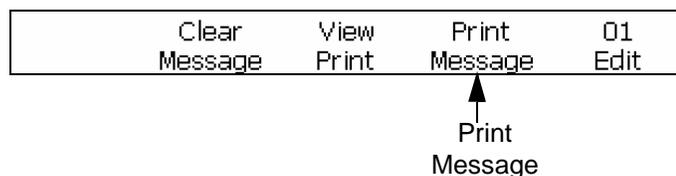

Figure 6-65: Frame <01 edit>
- Else, go to Frame <01 Edit>. Refer to Figure 6-65. Press F4 to select <Print Message>